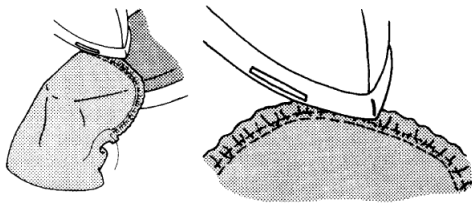

Figure 12
4. Distribute the small amount of ease between the underarm line and the notch; secure with a pin if necessary. Repeat on the other side. Sleeves made from heavier fabrics will often fit more smoothly if the excess fullness is shrunk out of the seam allowance. To shrink the excess fullness, remove the sleeve from the armhole without disturbing the fullness and place the sleeve cap over the end of a pressing ham, pressing cushion, or ironing board. With a steam iron, steam the seam allowance only. Continue steaming until the fabric shrinks to the desired shape or to a more manageable size. Do not shrink the sleeve cap, only the seam allowance (Figure 12).